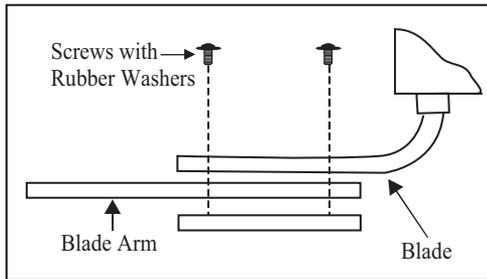

Figure 13
1. Attach the blades to the blade arms using three screws with rubber washers as shown in Figure 13. Start a screw into the arm, do not tighten. Repeat for the 2 remaining screws and washers.